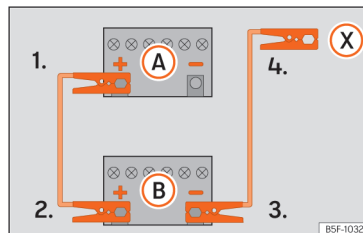

Fig. 44 Diagram of connections for vehicles without Start Stop system
2. Connect one end of the red jump lead to the positive (+) terminal of the vehicle with the flat battery (A) » Fig. 44.
3. Connect the other end of the red jump lead to the positive terminal (+) in the vehicle providing assistance (B).
- 4a. *In vehicles without a Start-Stop system:* connect one end of the black jump lead to the negative terminal (-) of the vehicle providing the current (B) » Fig. 44.